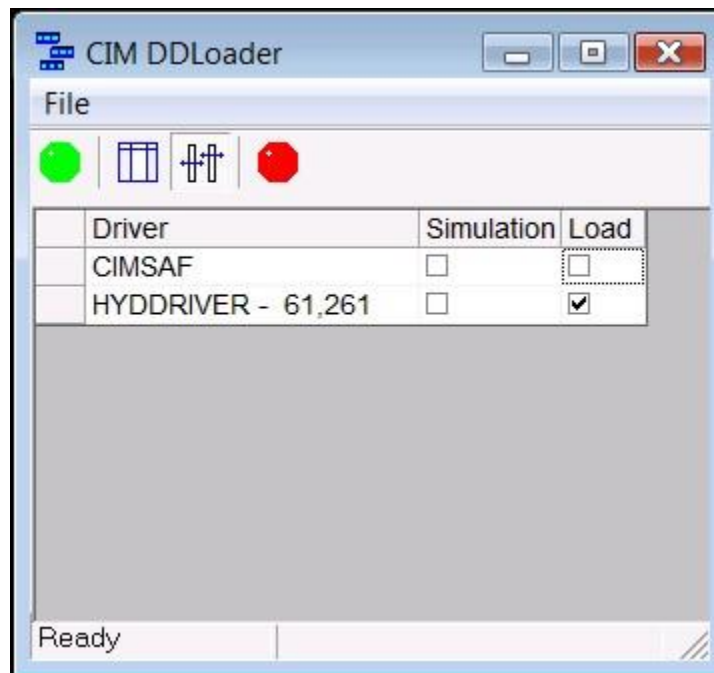

Figure 155: CIM DDLoader
1. Select the **Loader** icon of the workstation where the hydraulic device driver is installed. The CIM DDLoader window is displayed, as shown in Figure 155: CIM DDLoader.